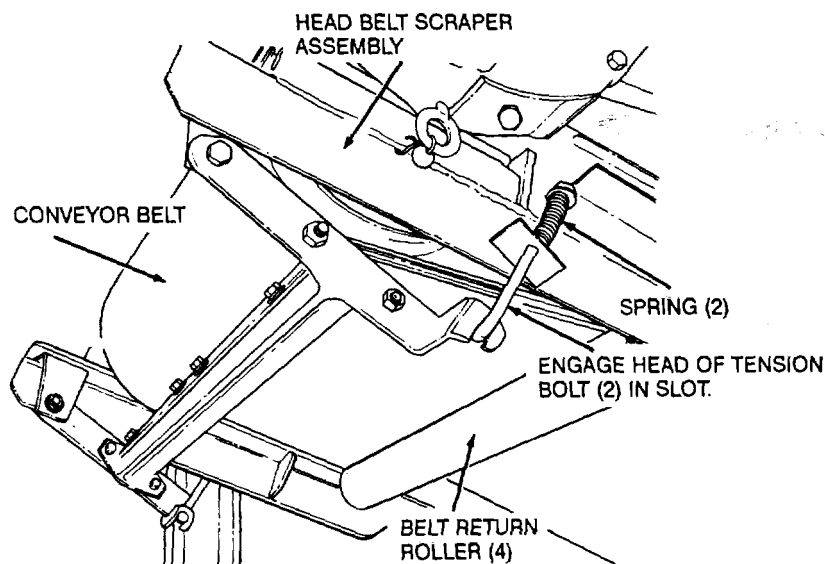

Figure 13. Head belt scraper, installed view.
- e. Remove the tension from the head belt scraper (fig. 13) and position the discharge conveyor in the transport cradle (fig. 18).